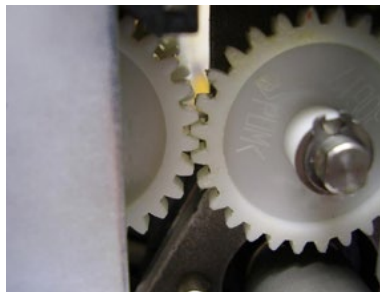

Figure 5 - Thread Feeder Gears
- Adjust the thread feeder assembly so that the thread feeder gear meshes with the gear on the Color Change, Take-Up Feeder Housing Assembly. See Figure 5. The maximum gap between the gears should be no more than .032" [0.81mm]. Gage Pin (PN: 32996) should not go between the two gears. See Figure 6.